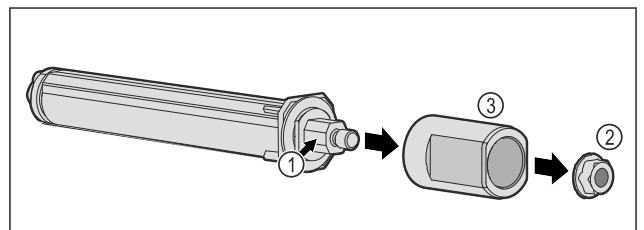

Fig. 54
- Do not disassemble the door locking system Fig. 54 (1).
- Remove the Fig. 54 (2) nuts.
- Take off the Fig. 54 (3) sleeve.